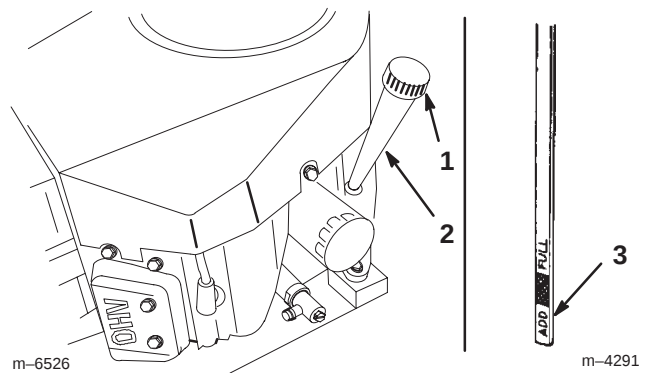

Figure 20
2. Clean around the oil dipstick (Fig. 20) so that dirt cannot fall into the filler hole and damage the engine.
3. Unscrew the oil dipstick and wipe the metal end clean (Fig. 20).
4. Slide the oil dipstick fully into the filler tube, but do not thread it onto the tube (Fig. 20). Pull the dipstick out and look at the metal end. If the oil level is low, slowly pour only enough oil into the filler tube to raise the level to the **full** mark on the dipstick.
6. Clean around the oil dipstick and unscrew the cap (Fig. 20).
- Slowly pour approximately 80% of the specified oil into the filler cap (Fig. 20). Refer to Servicing the Engine Oil, page 26.